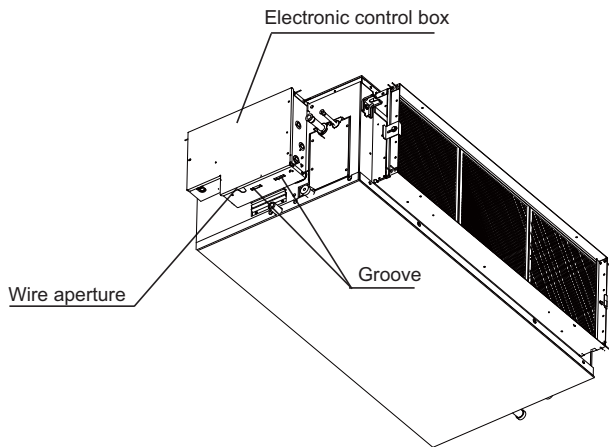

Fig. 17 —LED Display Panel Installation Location
2. Insert the buckles into the grooves in the electronic control box, and slide the display panel horizontally to lock in place. See Figs. 17 and 18.